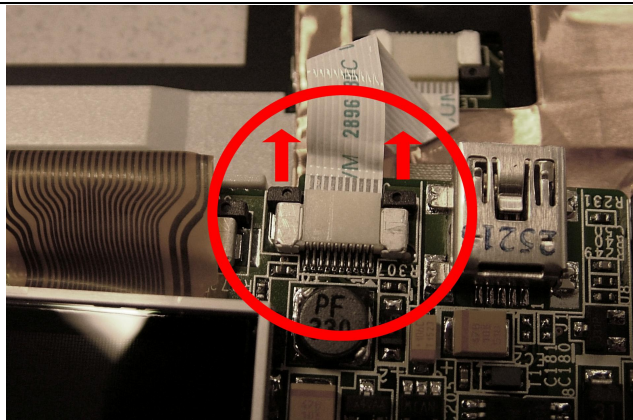

Fig. 7 Disconnecting the keypad flat cable.
3. Disconnect the keypad flat cable: Push the two clips in the indicated direction (see Fig 7) and take out the flat cable.